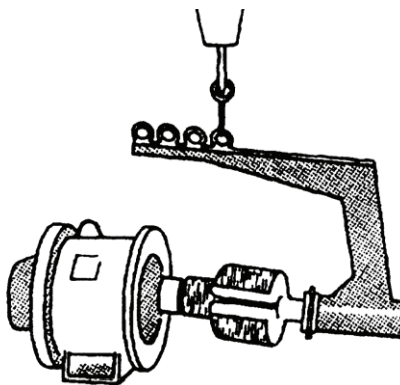

Figure 1. Rotor Assembly Lifting Device (Typical).
WP 0120, Figure 1, Item 1
5. Tag and disconnect main rotor leads (2 places) from rotating rectifier by removing nuts (WP 0120, Figure 1, Item 1) and lockwashers (2). Discard lockwashers (2).
10. Connect main rotor leads to rotating rectifier with nuts (WP 0120, Figure 1, Item 1) and new lockwashers (2). Remove tags.
3. Remove bolts (17 and 20), washers (18 and 21), spacers (19), and drive discs (22) from drive hub (26).
4. Remove bolts (23), lockwashers (24), and fan (25) from drive hub (26). Discard lockwashers (24).
5. Attach a suitable rotor lifting device to drive hub (26) and overhead hoist (Figure 1).
4. Attach a suitable rotor lifting device to drive hub (26) and overhead hoist (Figure 1).
5. Carefully install rotor assembly (28) and attached components into main stator and generator housing (11).
7. Install fan (25) on drive hub (26) with new lockwashers (24) and bolts (23).
WP 0098, Figure 1, Item 37
WP 0106, Figure 1, Item 17